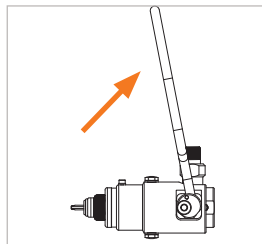

Figure 2
- ▶ Fold the actuation unit (pos. 1) upwards (Figure 2). The clamping jaws will close together.